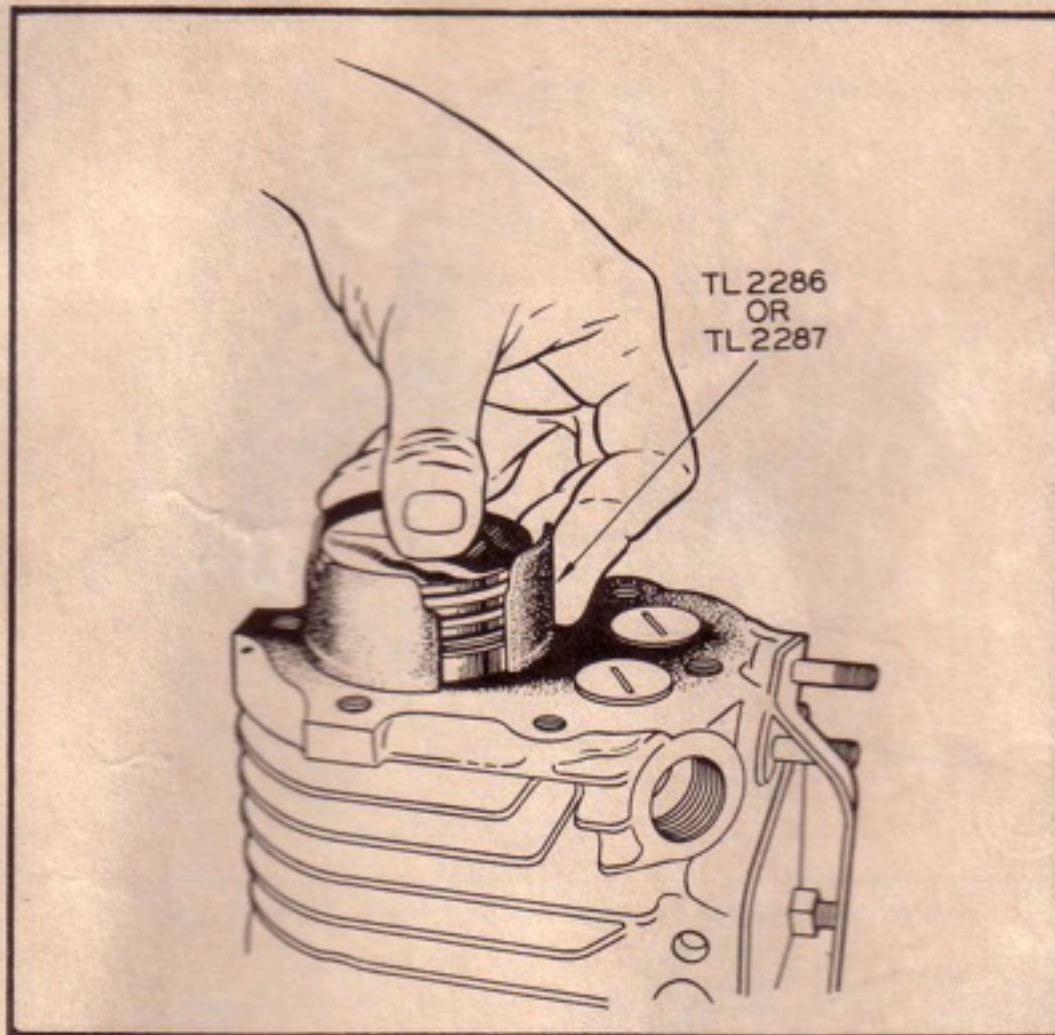

Figure C-27. Inserting Piston in Cylinder
3. INSERTING PISTON IN CYLINDER. (See figure C-27.)